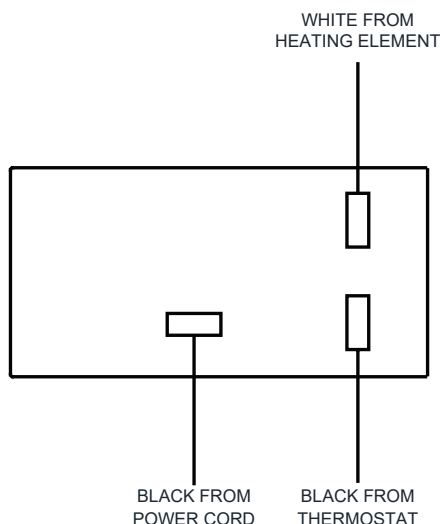
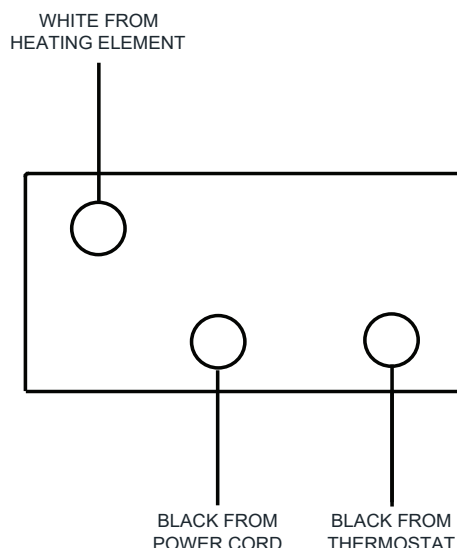

Figure 1: Push Connect Terminal Wiring
Figure 2: Screw Terminal Wiring
9. Draw the wires through the front panel's switch opening then reconnect the wires to the new on/off rocker switch either per Figure 1 if push connect terminals or Figure 2 if screw terminals. Specifically note the location of terminals on each kind of switch as they are different.